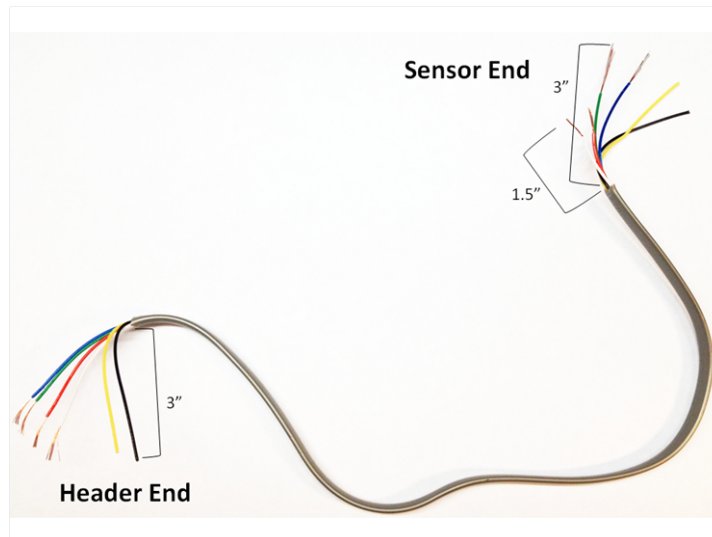

Figure 1: Wire prepared for attaching sensors
1. Remove 3 inches of wire casing from each end of the phone wire to expose the wires inside. For the heart rate monitor, you will be using four wires to attach the LED and photoresistor. Trim two of the wires by 1.5 inches on the sensor end, as shown in Figure 1 below. Use the wire stripper to remove the casing from each of the four wires on both the sensor end and header end.